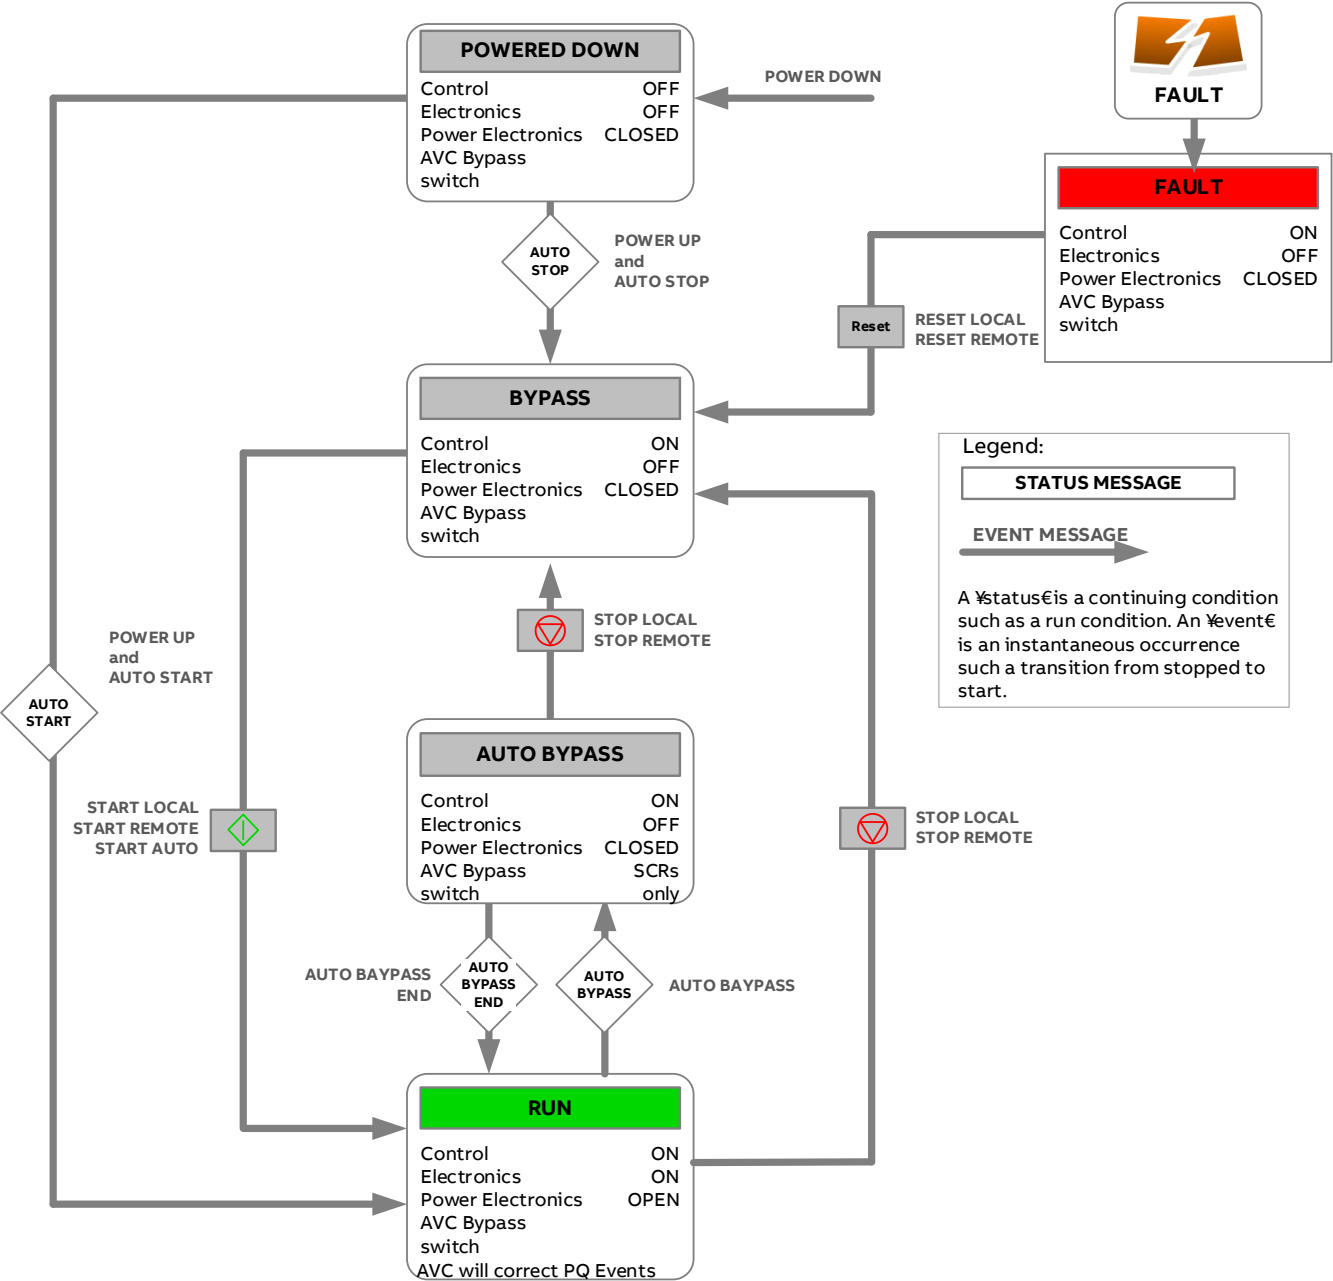

Figure 6-6: PCS100 AVC-40 state flow diagram
1. PCS100 AVC-40 Status: Refer to Table 6-2 for a complete list of status messages. See also Figure 6-6: PCS100 AVC-40 state flow diagram
Figure 6-6 shows PCS100 AVC-40 state flow diagram.